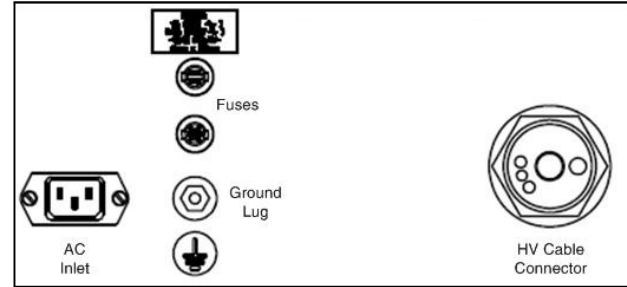

Figure 4: 9060 Connection Interface
The 9060 Controller connection interface shown in Figure 4, provides all of the required connections for setting up a No. 2 Process Handgun (80102-21X). This connection interface consists of one (1) high voltage cable connector, one (1) ground lug connection, two (2) fuses, and one (1) AC inlet receptacle.